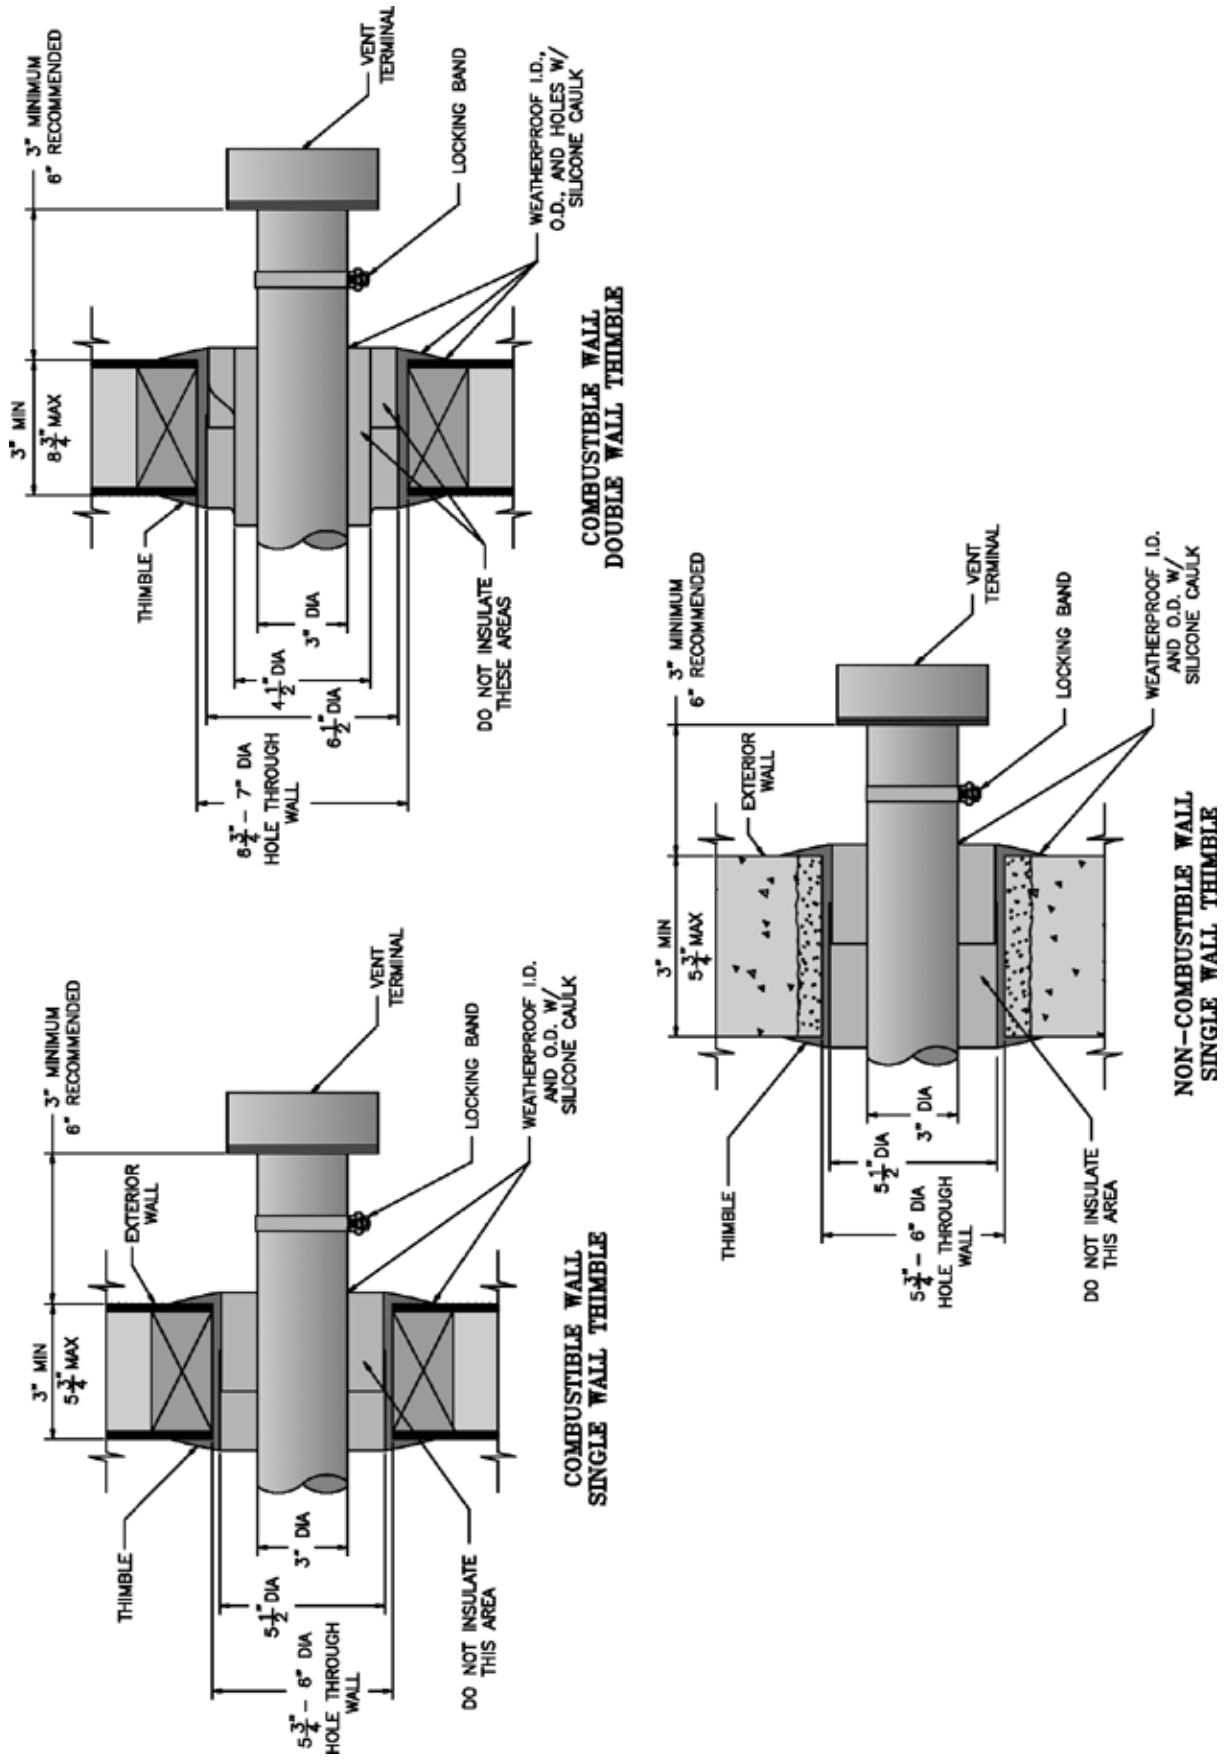

Figure 5: Recommendations for Thimble and Wall Penetration
5. Join vent terminal to vent pipe. Locate vent terminal 3 inches (minimum) and 6 inches (recommended) from wall when joined to inside vent piping. See Figure 5. Vent terminal clearance to vinyl wall surfaces is 6 inches.